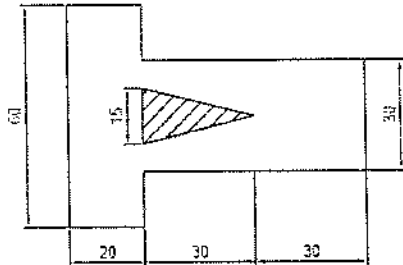

FIGURE 3
- 3.2 FIGURE 3, DIAGRAM SHEET 2 (attached), shows a lamina of which the triangle section has been removed that is symmetrical about its vertical axis X-X: (11)